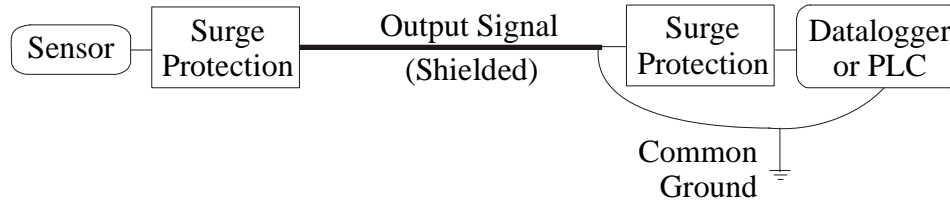

Figure 28. Surge protection for a water level sensor. The datalogger may require additional surge protection.
4. Use current-capable surge protectors at the termination between the cable and the power supply or PLC and between the cable and the sensor if possible (Miller 1998). See Figure 28 for clarification.